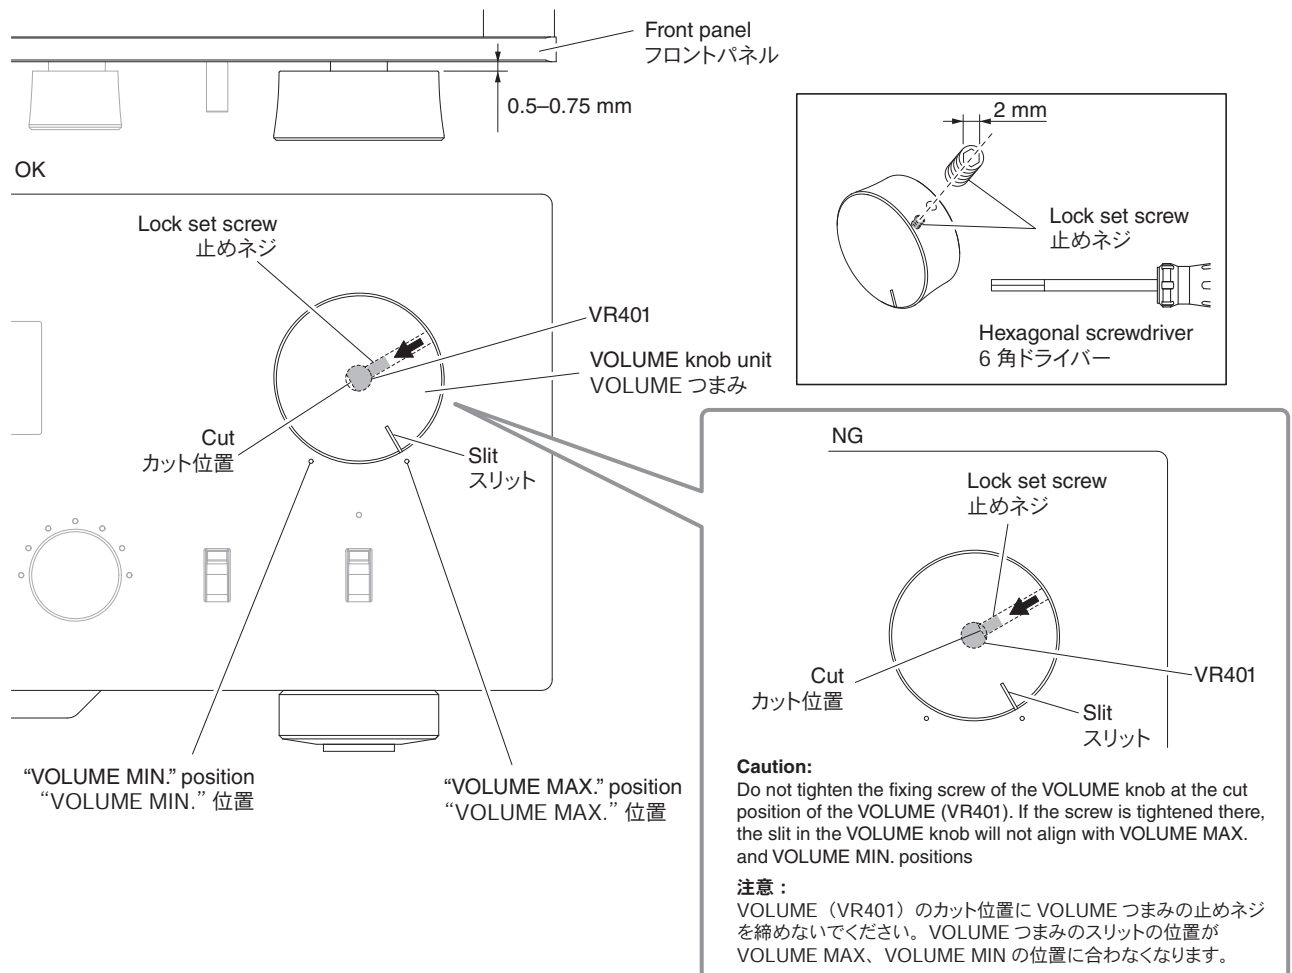

Fig. 3
- Turn the VOLUME (VR401) clockwise fully. (Fig. 3)
- Match the slit in the VOLUME knob unit with the "VOLUME MAX." position and install it in that state. (Fig. 3)
- Keep about 0.5 mm to 0.75 mm clearance from the front panel to VOLUME knob unit. (Fig. 3)
- Tighten the lock set screw. (Fig. 3)
- VOLUME (VR401) を右いっぱいに戻します。(Fig. 3)
- VOLUME つまみのスリットを "VOLUME MAX." の位置に合わせ、取り付けます。(Fig. 3)
- フロントパネルから VOLUME つまみまで 0.5 ~ 0.75mm 程度隙間をあけます。(Fig. 3)
- 止めネジを締めます。(Fig. 3)